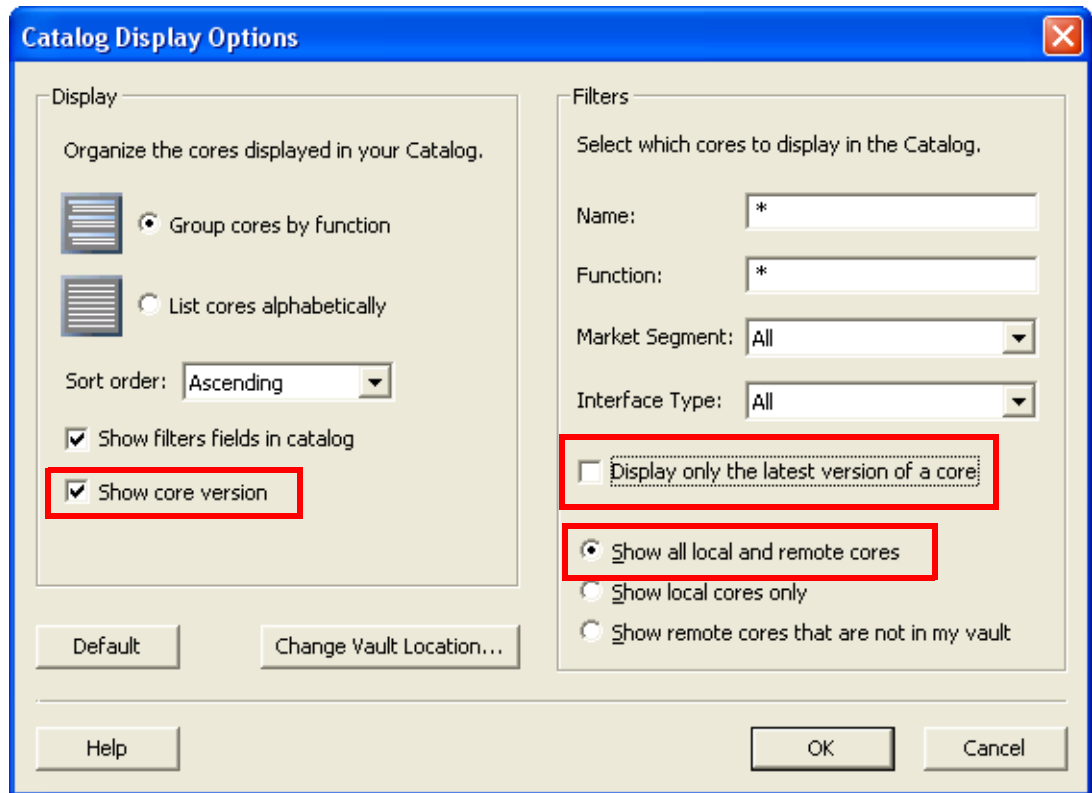

Figure 3-6 • Catalog Display Options
1. Click the **Options** button in the Catalog. You will see the Catalog Display Options window (Figure 3-6).